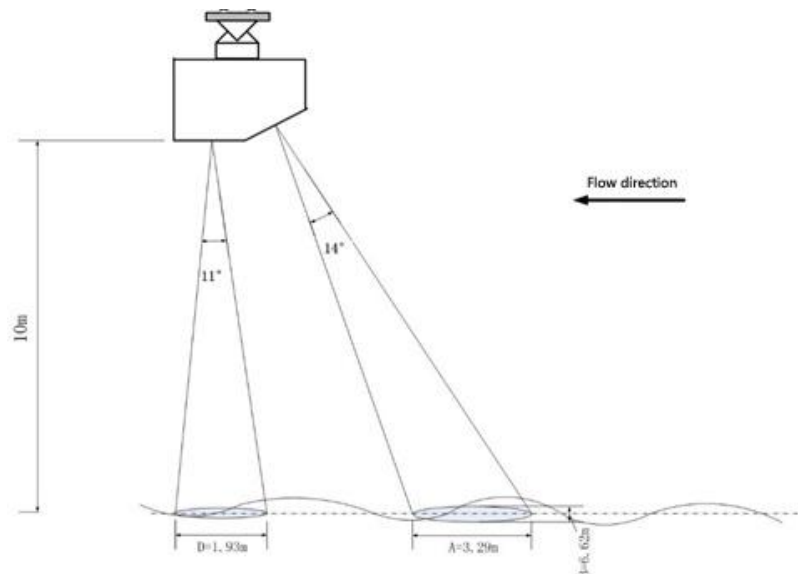

Figure 3-2 Illumination Area of Water Level Meter and Current Meter Antenna with 10m Installation Height
The flowmeter integrates a radar water level meter and a radar current meter. The antenna beam angle of the radar water level meter is $11^\circ \times 11^\circ$, and the radar antenna angle is $14^\circ \times 32^\circ$. When the water level meter illuminates the water surface, the illuminated area is similar to a circle, while the current meter illuminates the water surface, the illuminated area is similar to an elliptical area, as shown in Figure 3-2. An accurate understanding of the illumination range of radar waves is helpful to choose a suitable place for the flowmeter installation, and keep away from some scenes where the flowmeter is easy to be interfered, such as branches swinging with the wind on both sides of the river.
The boundary of the water surface area illuminated by radar is proportional to the installation height. Table 3-1 shows the values of parameter A, B, and D when the installation height is 1m and the wave beam of water level meter and current meter irradiates the water surface (see Figure 3-2 for the meaning of A, B and D). The actual installation height (in meters) multiplied by the following values is the actual corresponding parameters.
3. The current meter beam is recommended to be directed towards the incoming water, as shown in Figure 3-2, with a horizontal angle of 0 degrees to the water flow direction.